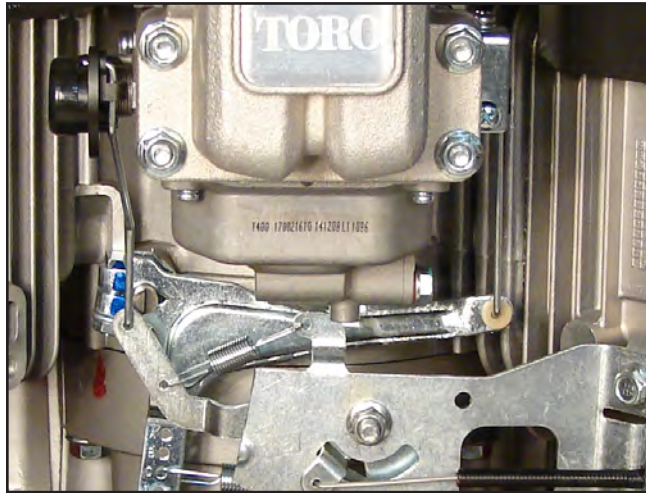

Figure 22
**NOTE:** Note the location of the spring on the governor arm, hole “C” (Figure 22).